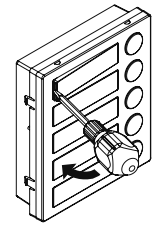

Fig. 8
- Move the screwdriver to the left as shown in **Fig. 8** to extract the card name holder;